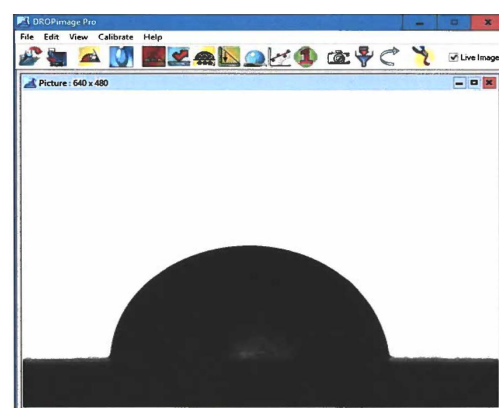
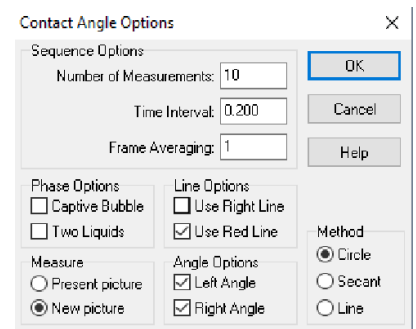

Figure 3 Main DropImage window.
Figure 5 Contact Angle Options window
12. In the Contact angle window, Figure 3, select the liquid and solid phases from the pull-down boxes in the upper part of the window. If the solid or liquid you want to measure is not in the list, new items may be added by pressing the corresponding Add button. **Note** this is only necessary if you plan to calculate surface energy.
19. Select **Setup** from the menu option, Figure 3.
22. . Select **Options** from the menu in the Figure 3. The Contact Angle Options dialog appears, Figure 5. Select the options you want, generally best not use right line, and close the Options menu. Options will be retained between experiments.